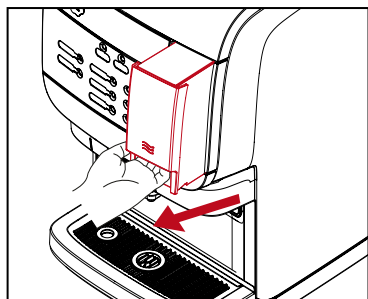

Fig.27
1. Remove the water tank by lifting slightly, then pulling straight out. (See Fig.27)